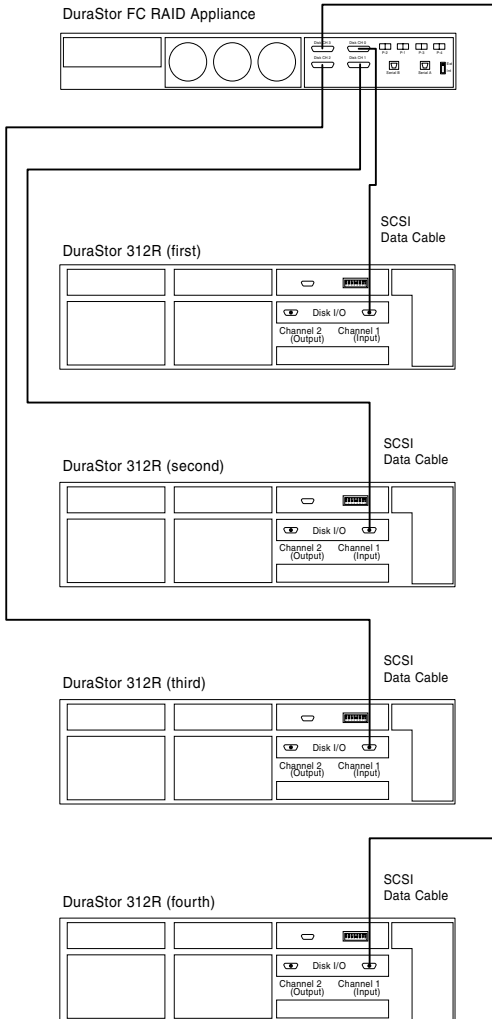

Figure 3-25 37–48-Drive Cabling Diagram
- 2 Connect the DuraStor Fibre Channel-to-SCSI RAID appliance to the DuraStor 312R using SCSI data cables as shown in Figure 3-25.